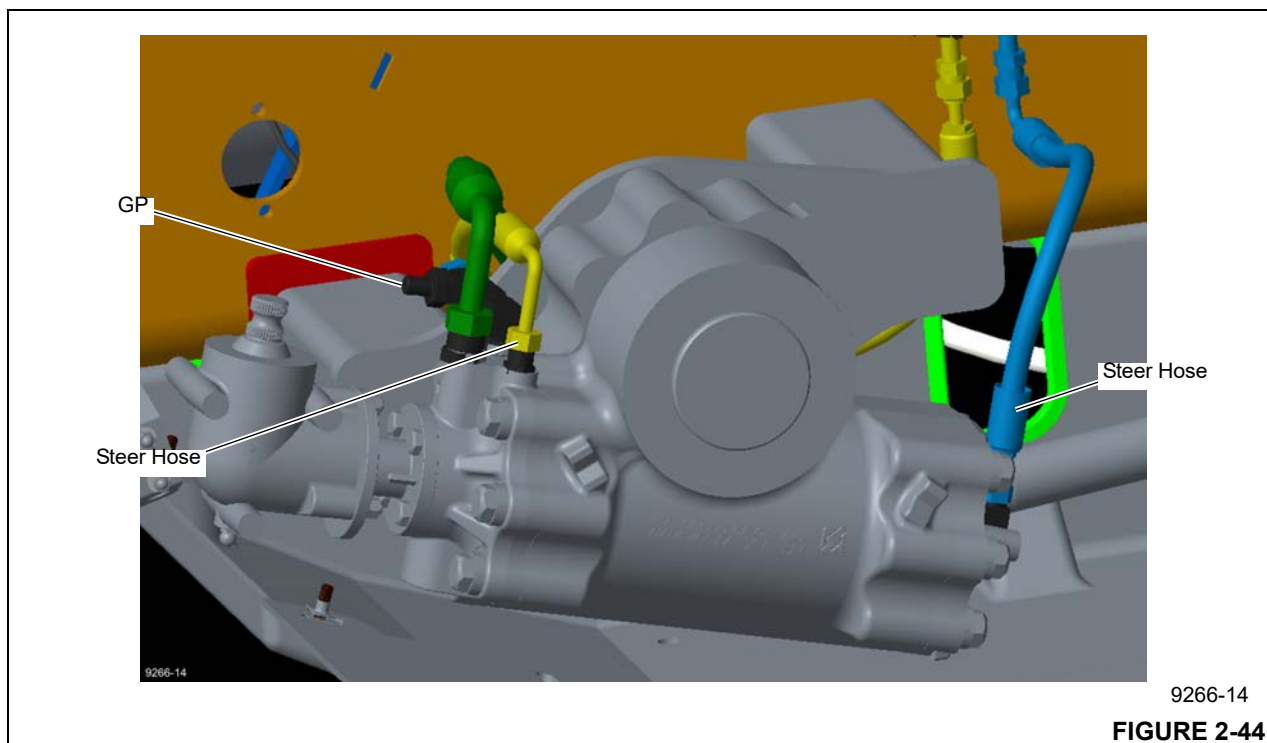

FIGURE 2-44
1. With the engine off, install a pressure check diagnostic coupler (Parker PD240) with gauge onto the diagnostic nipple at the GP port of the power steering gear box. (see Figure 2-44)
2. Disconnect and plug one steer hose and cap the fitting. (see Figure 2-44)